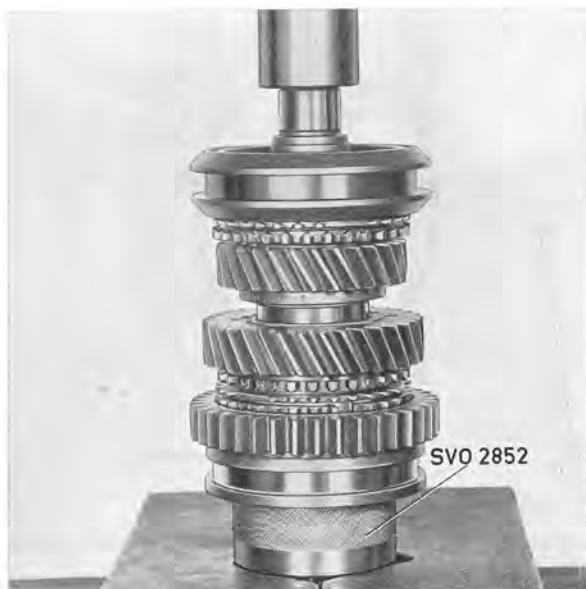

Fig. 4-28. Installing synchronizing
chronizing and the gear wheel. Fit the needle bearing and press in the mainshaft, see Fig. 4-28. When doing this, turn the 3rd speed gear wheel in order to check that this gear as well as the needle bearing fit correctly. Try out a circlip which fills the groove well and fit the circlip.
4. Place 1st-2nd speed synchronizer, synchronizing cone, 2nd speed gear wheel and needle bearing on ring 2852. Make sure that the gear ring on the engaging sleeve comes forwards and that the flanges fit correctly in the grooves of the synchronizing cone. Press in the mainshaft, see Fig. 4-28. When doing this, turn the 2nd speed gear wheel to prevent it from fastening. Try out a circlip which fits well into the groove on the shaft and fit the circlip.